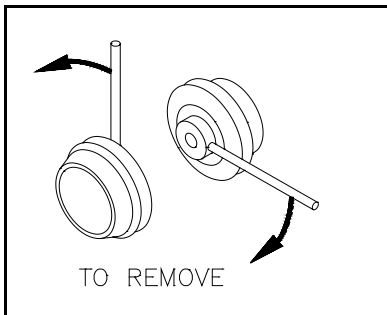

Figure 2.
- 4.2 Insert one pulley wrench (7/64" diameter rod) into the hole behind one pulley. Insert the other pulley wrench into the hole behind the other pulley as a backup wrench. See Figure 2. Turn one pulley counterclockwise (as you face the flat side of the pulley). You will have to remove the pulley wrench and insert it into the opposite hole every half turn.